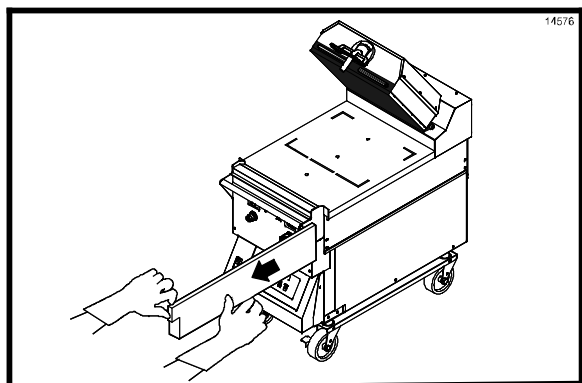

Figure 40
31. Remove and empty the grease pans. (See Figure 40.)